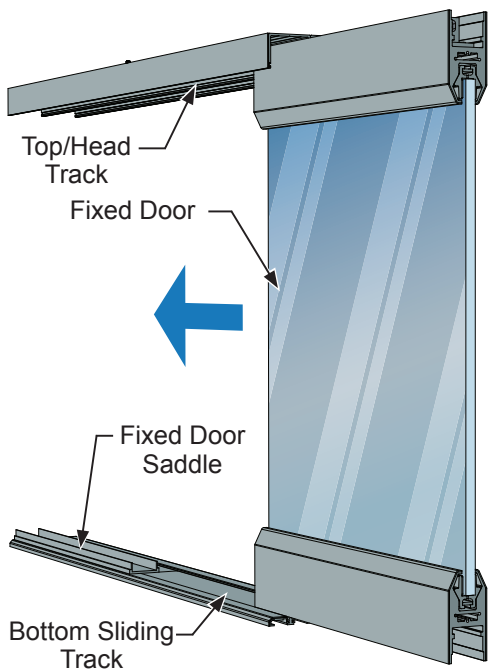

FIG. 10
8. Slide the Panel over the Saddle until the Panel is in position. (FIG. 10)